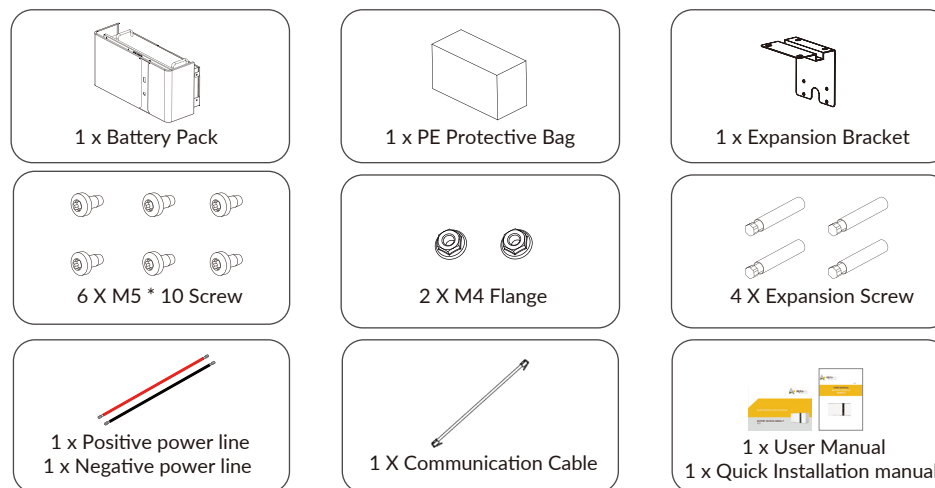

Figure 2.18 Parts List of M4856-P Accessory Package
Step 1 Take out the M4856-P(indoor) from the carton; confirm whether the accessories are complete, as shown in Figure 2.18